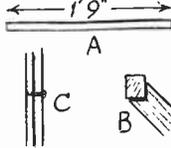

Fig. 2—Stretcher detail
For the stretchers, which keep the kite in shape and the material taut, cut four pieces of $\frac{1}{2}$ in. wood, to $\frac{3}{8}$ in. width and 1ft. 9ins. long, as at (A) in Fig. 2. Any thin tough wood will serve for making these, the tougher the better, as they have to stand some strain.